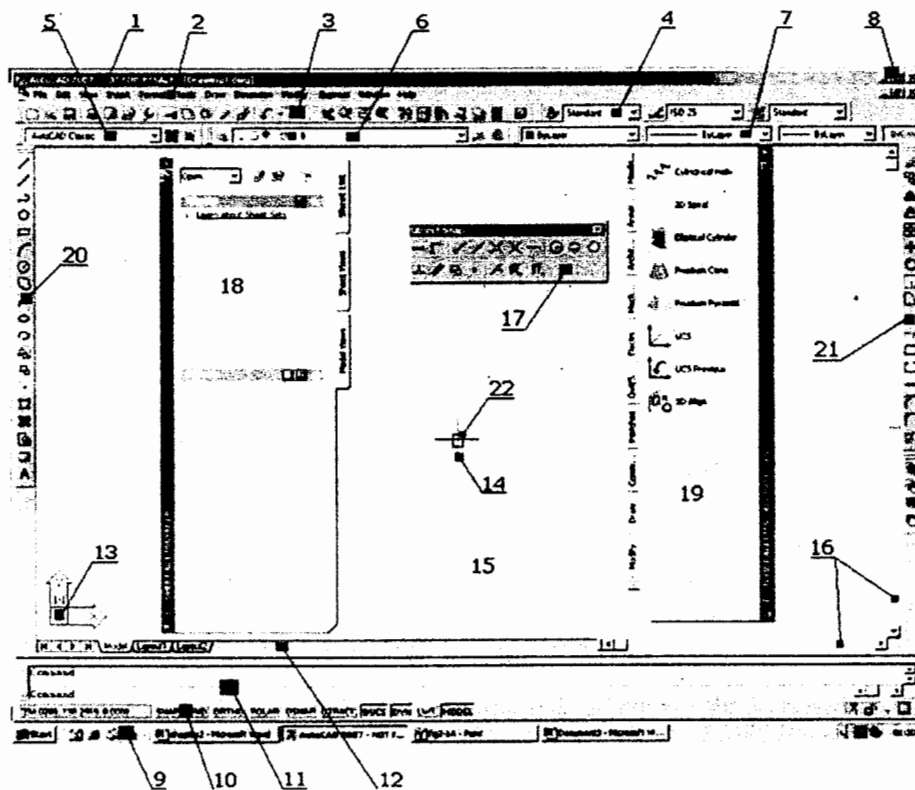

Figure 5 Workspace of an AutoCAD 2007 programme.
- c) Name the sections labelled 1, 3, 11,15 and 21, in the AutoCAD 2007 graphics screen shown in Figure 5 [10 marks]